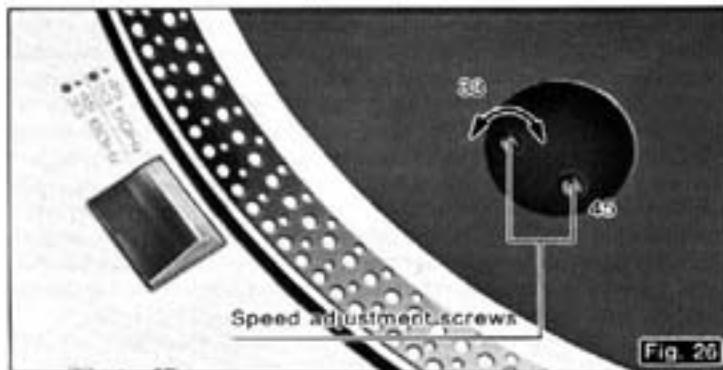

Fig. 26
4. If the desired speed can not be obtained by the variable pitch controls, turn the speed adjusting screws with a screw driver for further adjustments. (See Fig. 26)